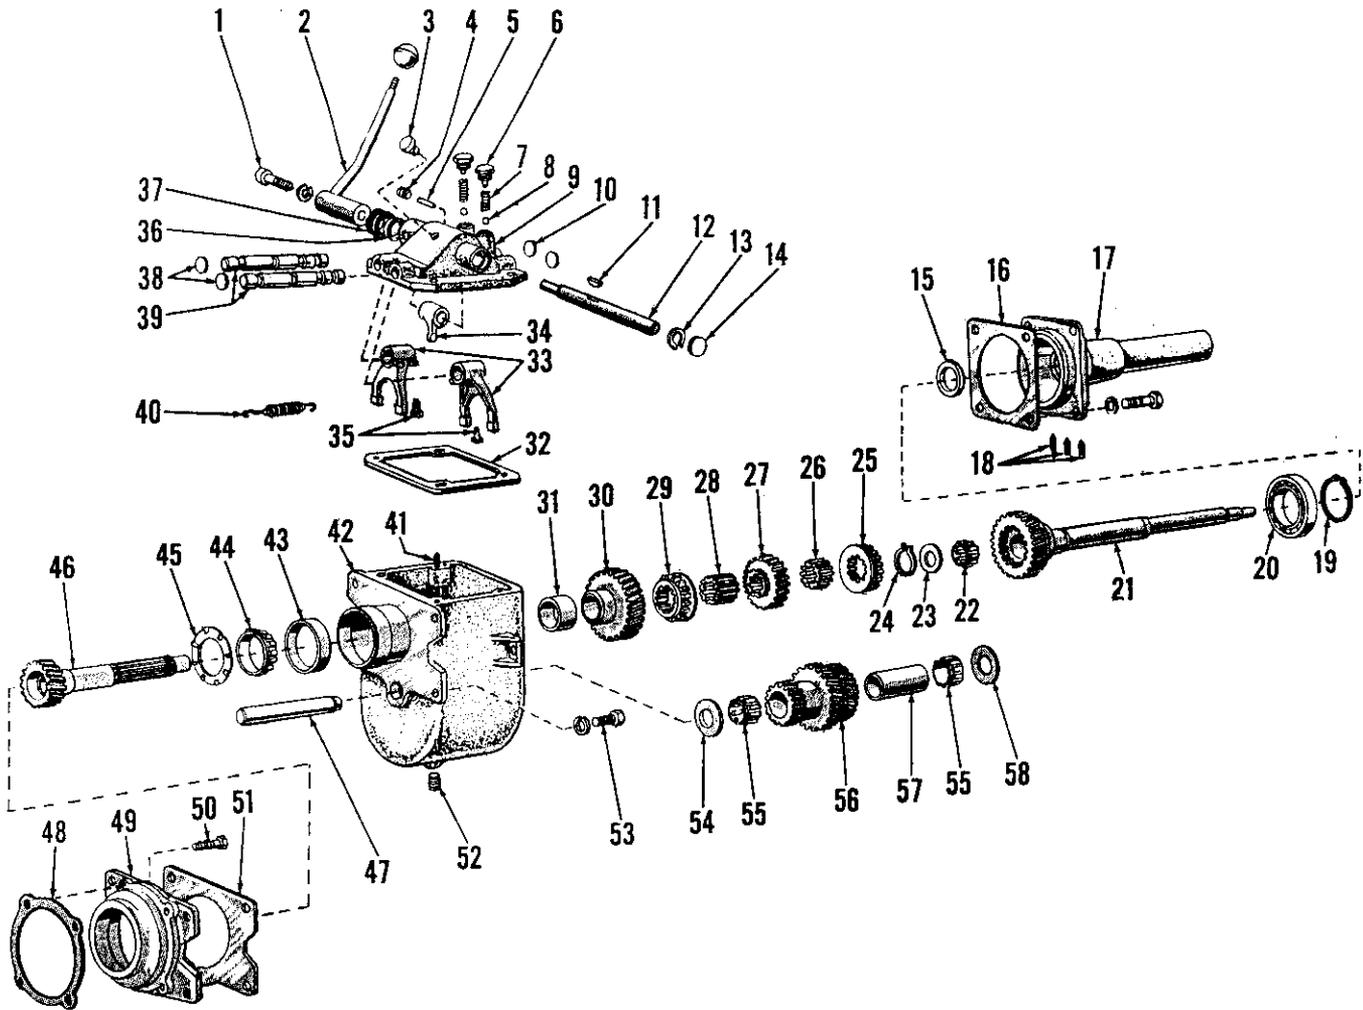

Fig. 182—Exploded view of auxiliary transmission that is available for installation in models with standard shift four-speed transmission.
186. Separate (split) tractor between engine and transmission housing as outlined in paragraph 181. Disconnect the clutch release bearing springs (40—Fig. 182) and remove the bearing. Drain the auxiliary transmission and main transmission. Remove the socket head screw (1) from auxiliary transmission shift lever (2) and remove the lever. Then, unbolt and remove the auxiliary transmission from mounting flange (49) on front of main transmission housing.
187. **SHIFTER RAILS AND FORKS.** To remove shifter rails and forks, the auxiliary transmission must be removed as outlined in paragraph 186. Refer to Fig. 182, remove the retaining cap screws and lift shifter cap assembly (9) from gear case. Remove the two detent caps (6), detent springs (7) and detent balls (8) from shifter cap. Remove lock wires and the drilled head set screws (35) from shifter fingers (forks) (33). Remove the Welch plugs (38) from the shifter rod bores at the rear of the shifter cap, then drive the shifter rods (39) out the front of shifter cap. Remove the set screw (4) from the interlock bore and remove the interlock (5). Remove the snap ring (13) from the groove on the selector shaft (12) and slide the selector fork (34) and snap ring toward the end of the selector
189. **CLUTCH SHAFT.** With tractor separated (split) as in paragraph 181 and the unit drained, the clutch shaft (21—Fig. 182) can be removed by unbolting the support (17) and pulling the support and clutch shaft assembly from the gear case. Remove the roller bearing (22) and the thrust washer (23) from the pilot end of
190. **DRIVE SHAFT.** With the shifter cap assembly removed as in paragraph 187 and the front support and clutch shaft assembly removed as in paragraph 189, refer to Fig. 182 and remove snap ring (24) from drive shaft (46). Then remove front shift collar (25), short spline sleeve (26), step-up gear (27), rear shift collar (29), long spline sleeve (28), step-down gear (30) and spacer (31) from drive shaft. NOTE. Identify shift collars (25 and 29) so they can be reinstalled in their proper positions. Pull the drive shaft,
192. **CLUSTER GEAR AND SHAFT.** Remove the drive shaft assembly as outlined in paragraph 190. Refer to Fig. 182 and drift the cluster shaft (47) out toward rear of gear case and catch cluster gear (56) and thrust
Fig. 185—Exploded view of four-speed transmission gears, shafts and related parts. Items 1 through 6 are not used on models equipped with auxiliary transmission; refer to Fig. 182.